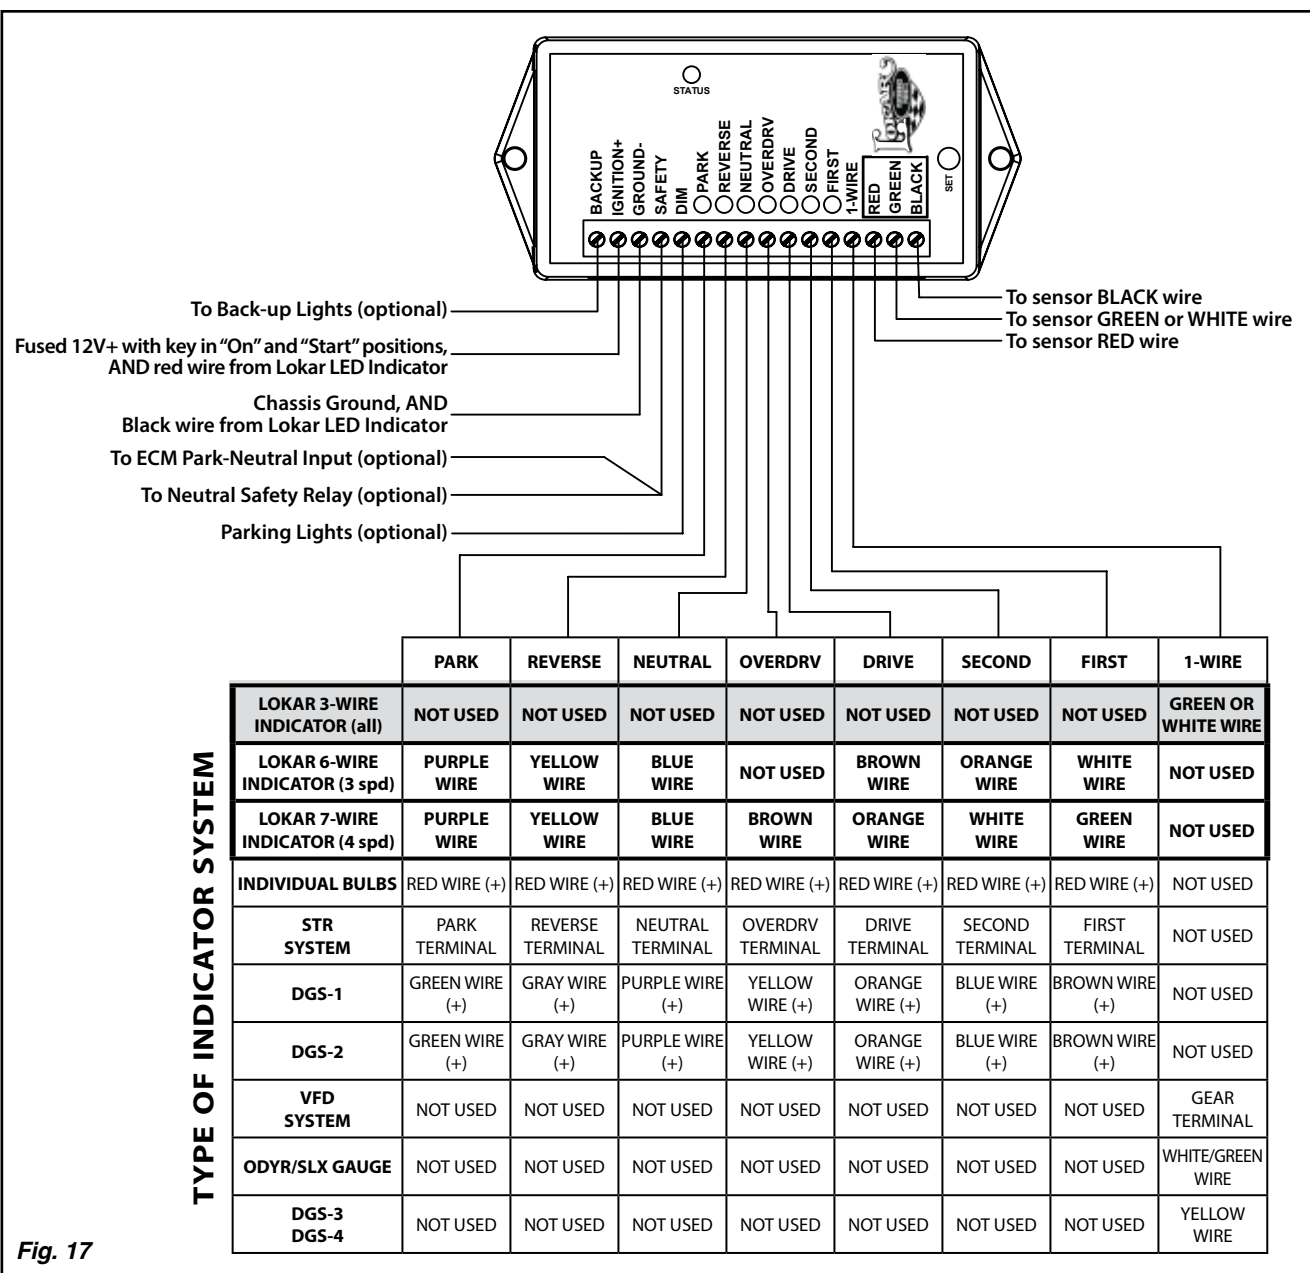

Fig. 17
Connect one end of a black wire (not supplied) to a solid chassis ground. Join the other end of that wire to the black wire from the LED indicator. Insert the joined end of those wires into the "GROUND-" terminal on the decoder box and tighten the terminal screw. **Fig. 17**
Step 13: Following the wiring diagram in **Fig. 17** for your type of indicator, connect the rest of the wires from the LED indicator to the decoder box.
Step 15: Following the wiring diagram in **Fig. 17** for your type of indicator, connect the rest of the wires from the LED indicator to the decoder box.